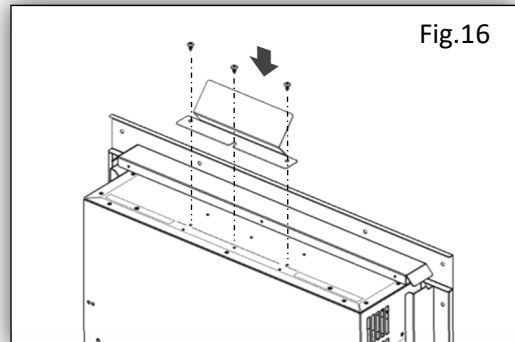

Fig.16
16. Screw the back panel clamp bracket to the top of the fire using 3X -10mm Dome Head screws supplied with the fire. **See Fig.16 & 16b.**
There are three mounting positions dependent on the back panel thickness. The middle fixing points should be used for this installation. **See Fig.16,16a,16b.**
**See Fig.16,16a,16b.**